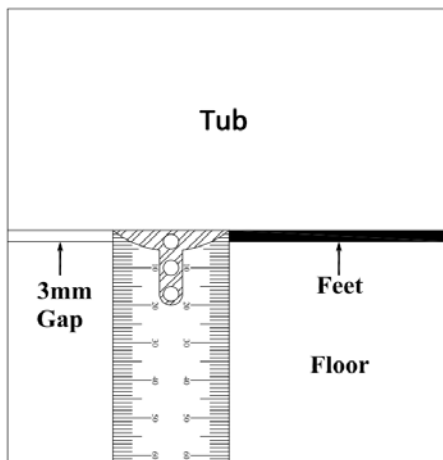

Figure 1
Loosen the nuts on the tub's leveling feet and adjust the feet until the tub base is 3mm above the floor, but do not tighten the nuts. The skirt cannot take the weight. See figure 1
- a. Install the FLEXIBLE DRAIN to the drain hole under the bathtub. Make sure there is a RUBBER WASHER between the drain hole and the FLEXIBLE DRAIN. The flat surface of the RUBBER WASHER should face upward towards the drain hole. (fig 1)